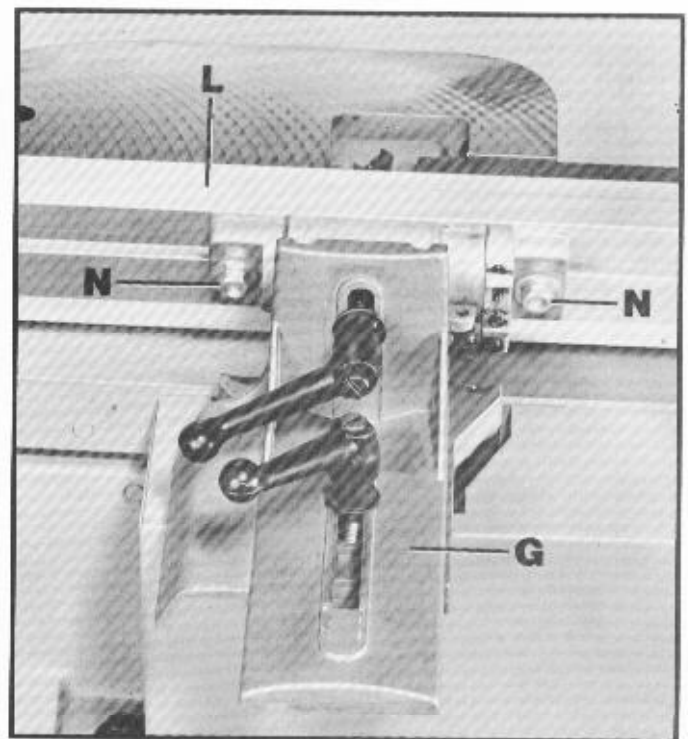
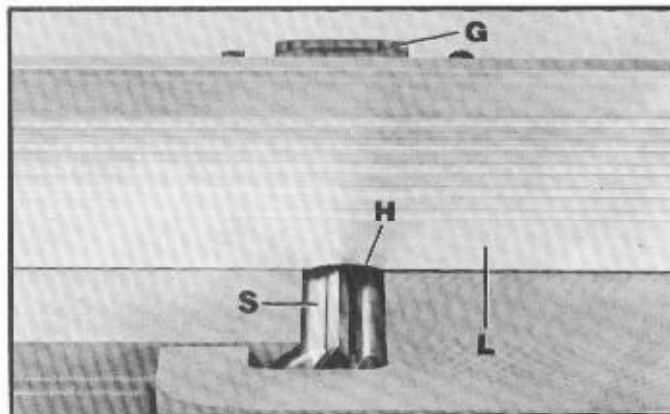

Fig. 8
Fig. 10
The fence (L) Fig. 8, is shipped from the factory already assembled to the fence holding bracket (G); however, to make installation of the fence assembly to the jointer base easier, proceed as follows:
1. Loosen the two hex nuts (N) Fig. 8, and slide the fence (L), sideways to remove.
4. Carefully slide the fence (L) Fig. 10, back onto the fence bracket (G), as it was removed in **STEP 1**, being certain the cut-out (H) of the fence is positioned over the cutterhead (S), as shown. Firmly lock the fence (L), in place by tightening screws (N) Fig. 8.